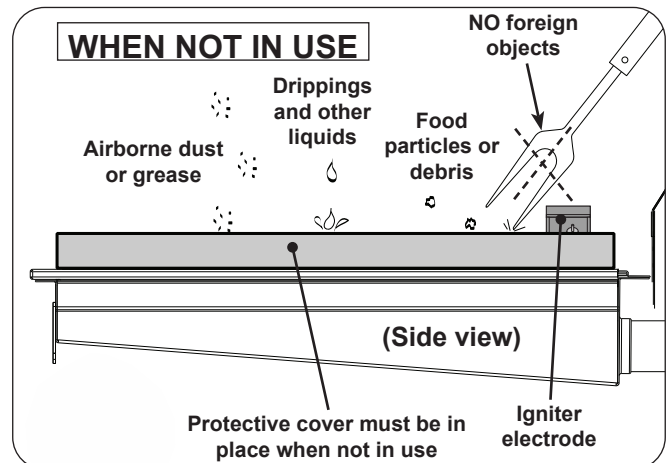

Fig. 44-2 Infrared burner - WHEN NOT IN USE
- When not in use, **always** cover the infrared burner with the stainless-steel cover. This protects the burner from drippings (from other cooking), water, airborne particles, and foreign objects (Fig. 44-2).
- Do not strike or scrape the ceramic portion of the burner as it may chip, crack, or break (Fig. 44-2).